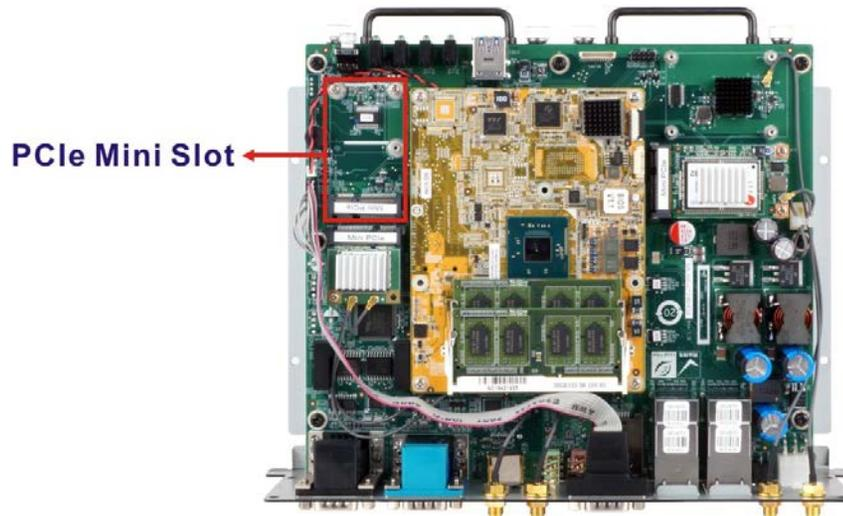

Figure 3-6: PCIe Mini Slot Location
Step 2: Locate the PCIe Mini slot (MINI-PCIE3) as shown in **Figure 3-6**.